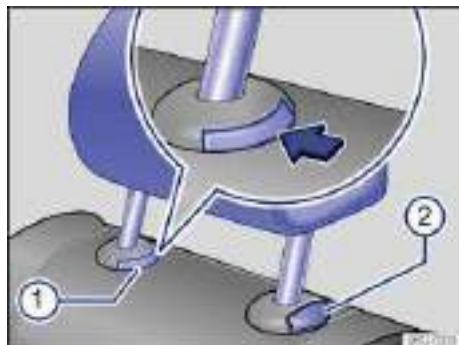
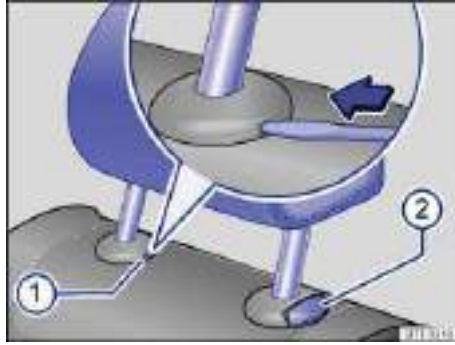

Fig. 42 Removing the rear head restraint (version A).
Fig. 43 Removing the rear head restraint (version B).
- Push button ⇒ fig. 42 (1) in the direction of the arrow and hold it in this position.
- At the same time press button (2) while a second person pulls out the head restraint completely.
- If necessary, press the flat blade of the screwdriver from the vehicle tool kit into the slit of the trim cap ⇒ fig. 43 (2) in the direction of the arrow and hold it in this position.
- Push the head restraint down while pressing button ⇒ fig. 42 (2) or ⇒ fig. 43 (2).